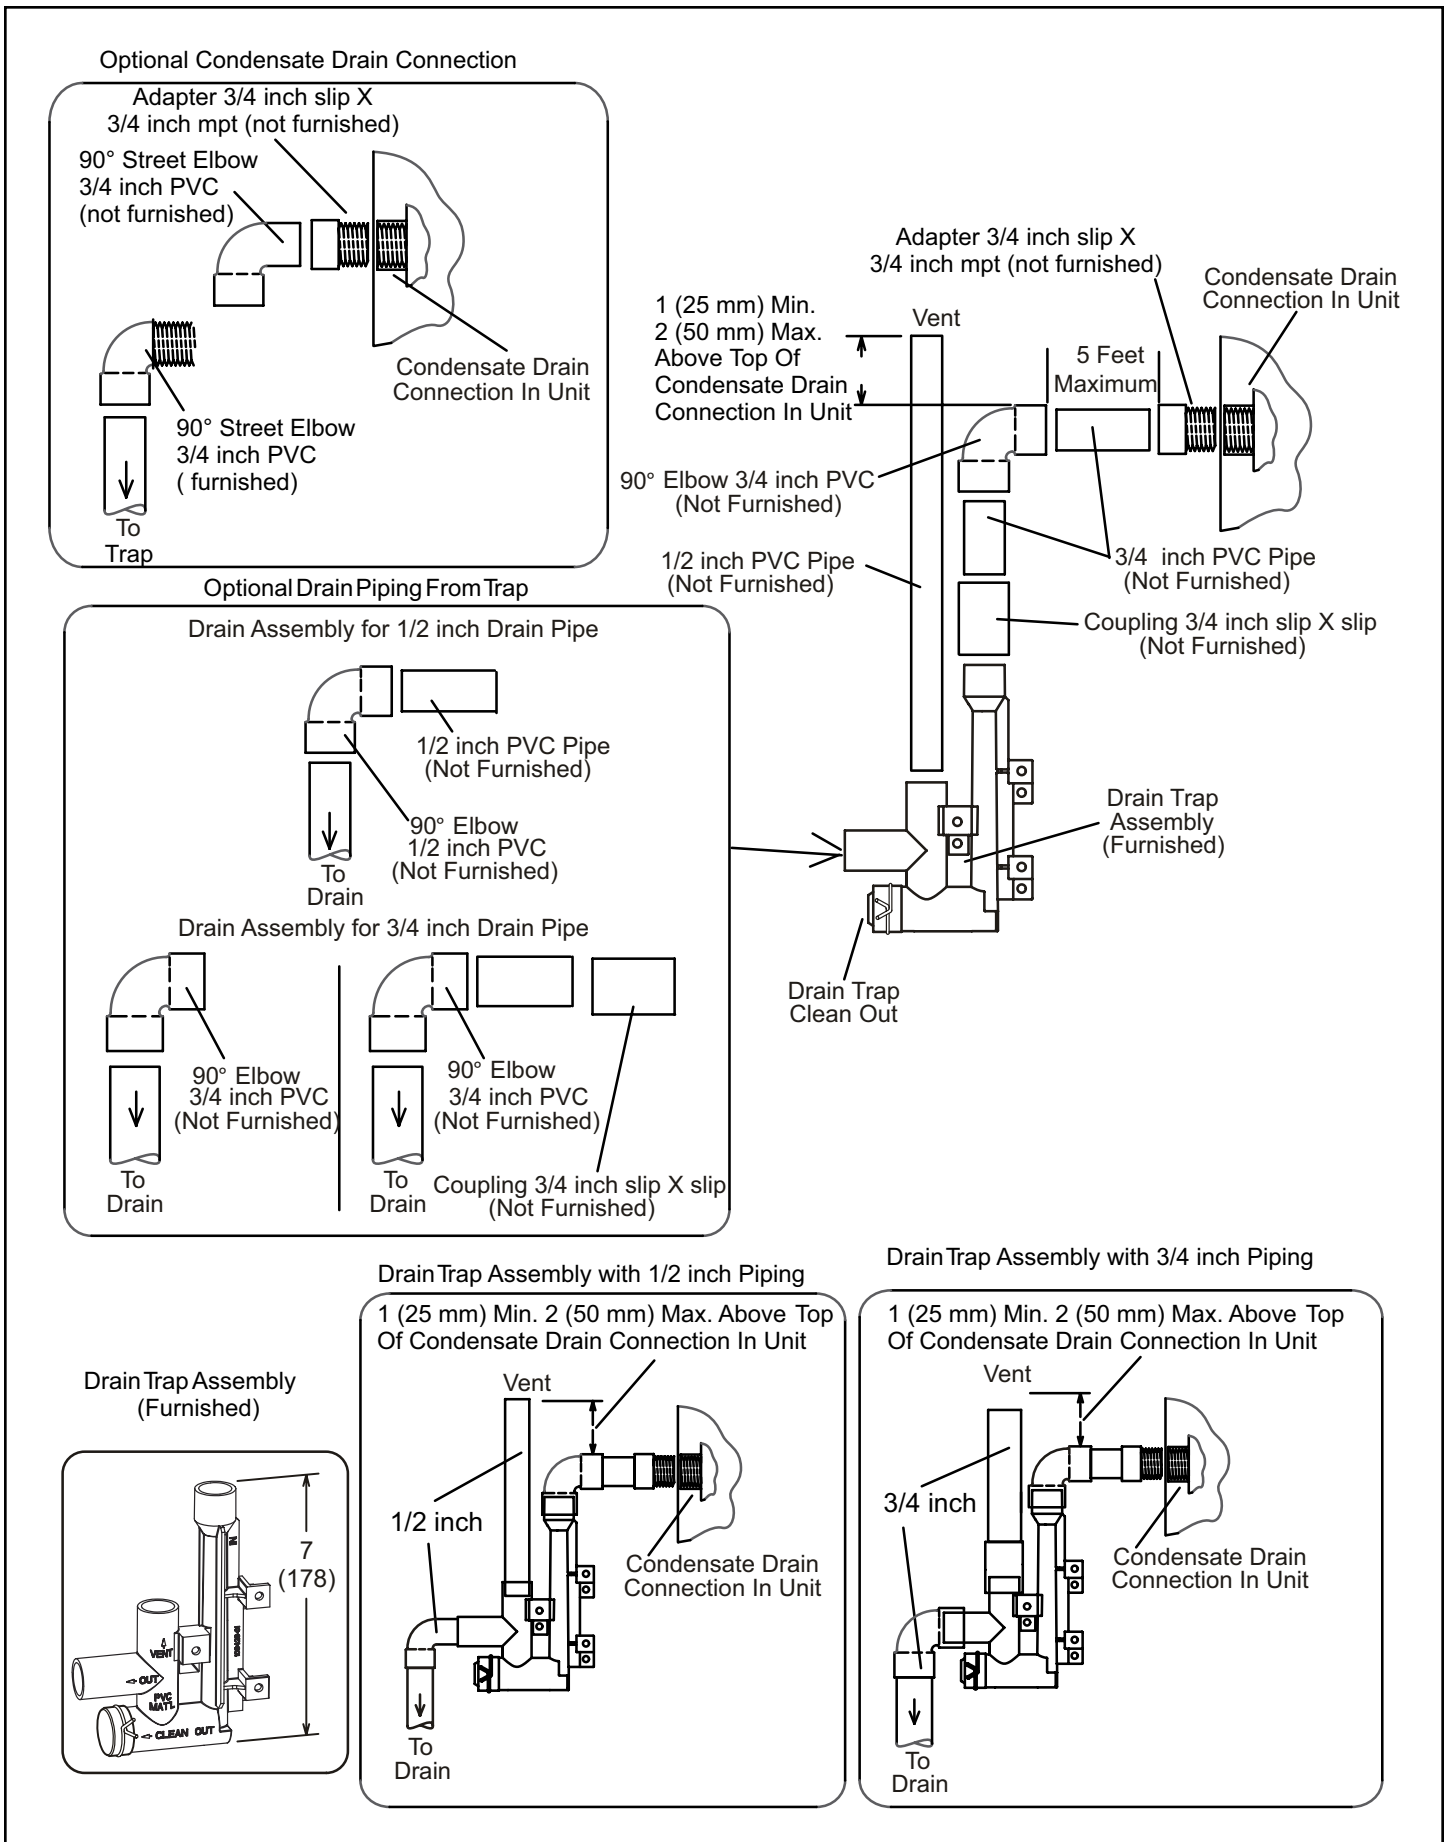

Figure 51. Trap Drain Assembly Using 1/2" PVC or 3/4" PVC
3. Install the cap over the clean out opening at the base of the trap. Secure with clamp. See Figure 51.
4. Install drain trap using appropriate PVC fittings, glue all joints. Glue the provided drain trap as shown in Figure 51. Route the condensate line to an open drain. Condensate line must maintain a 1/4" downward slope from the furnace to the drain.